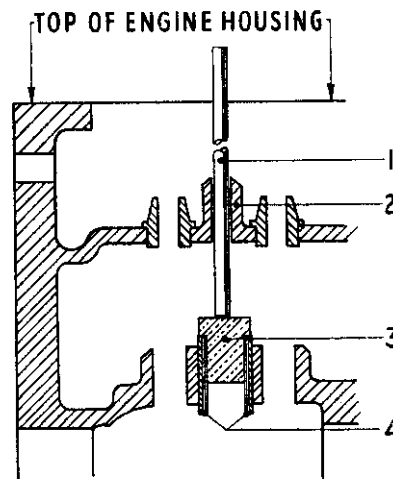

Fig. 6
- Insert the spigoted phosphor bronze drift (3) in the bush (4) from the top side and with round steel bar (1) through fuel pump tappet rod hole (2) drive the bush into the crankcase. See Fig. 6.